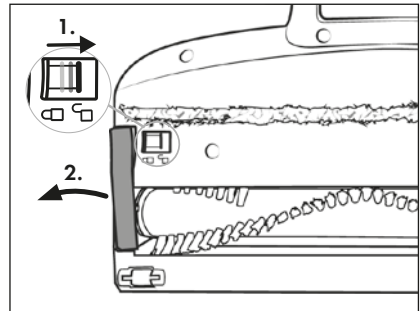

Fig. 24
- 2) Unlock the rotary brush **21** by sliding the rotary brush release **19** with your finger towards the symbol  (open). Remove the rotary brush holder **20** from the floor brush **22** (see Fig. 24).